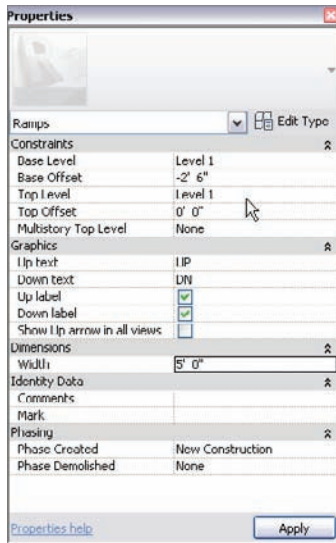

FIGURE 10.84 Setting the properties
12. Set Base Offset to -2'-6" (-750mm), as shown in Figure 10.84.
14. Set Width to 5'-0" (1500mm), as shown in Figure 10.84.